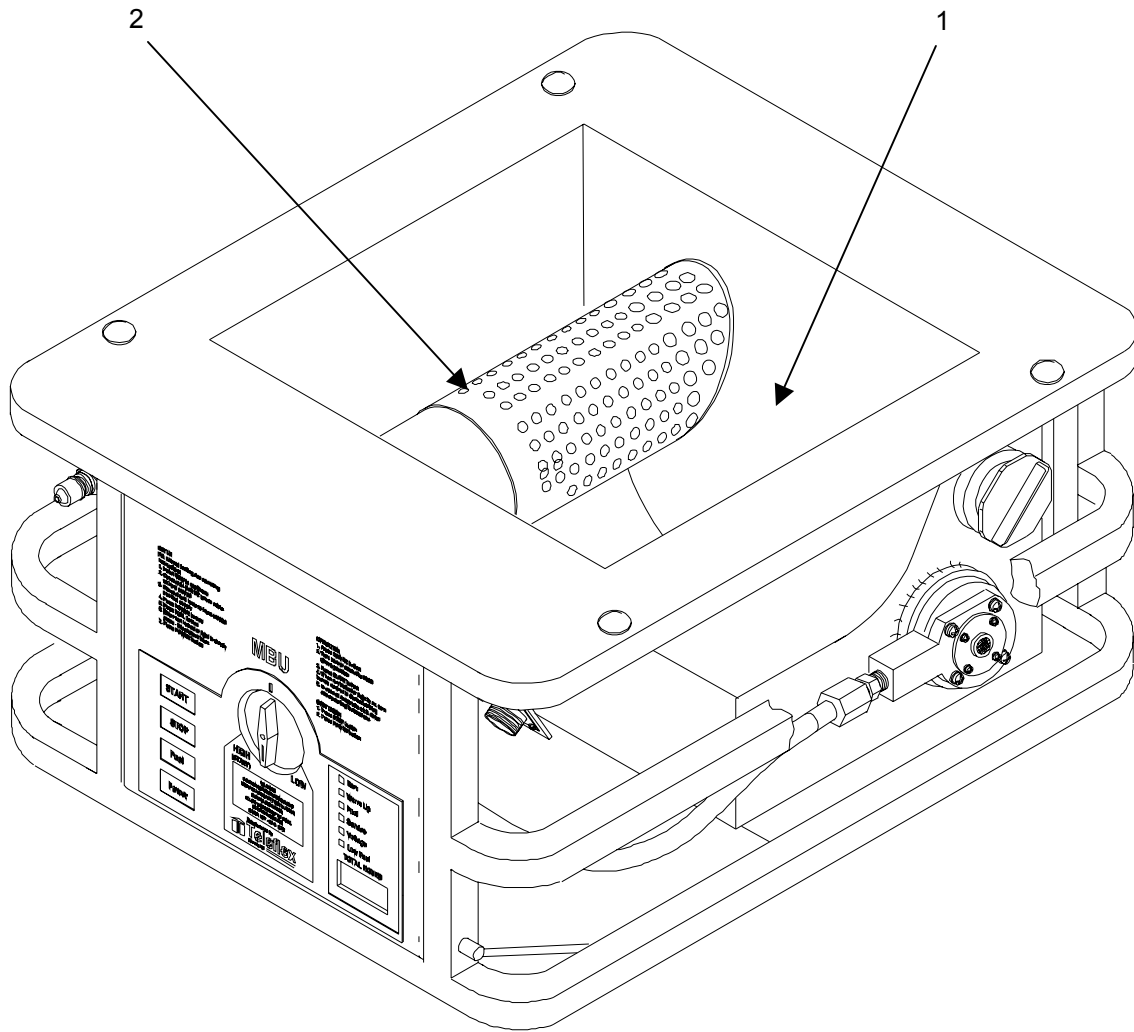

Figure 1. Inspect the Reflective Heat Shield and Burner Assembly
Inspect the reflective heat shield (**figure 1, item 1**) and burner tube assembly (**figure 1, item 2**) for physical damage, such as dents, perforations or severe warping. Check mounting hardware for security.